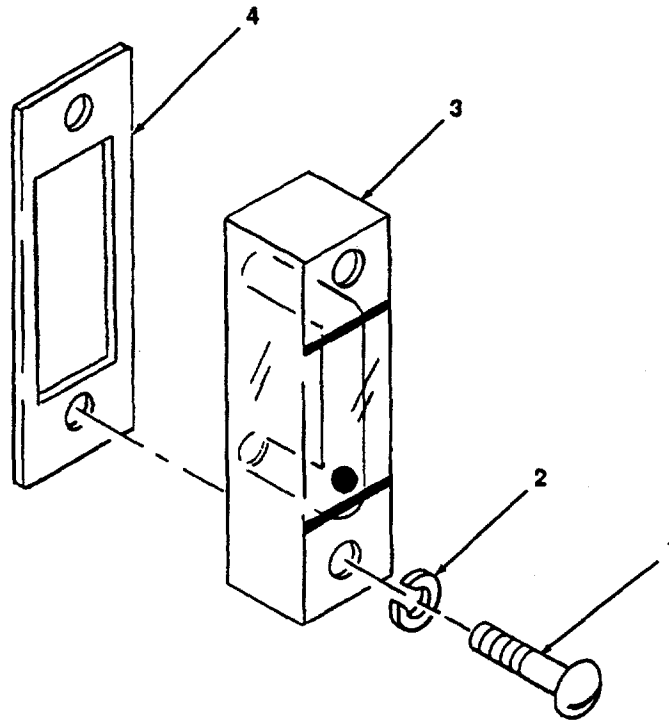

Figure 4-9. Sight Gage, Replace.
a. Replace. (figure 4-9)
- (1) Remove two screws (1), washers (2), sight gage (3) and gasket (4).